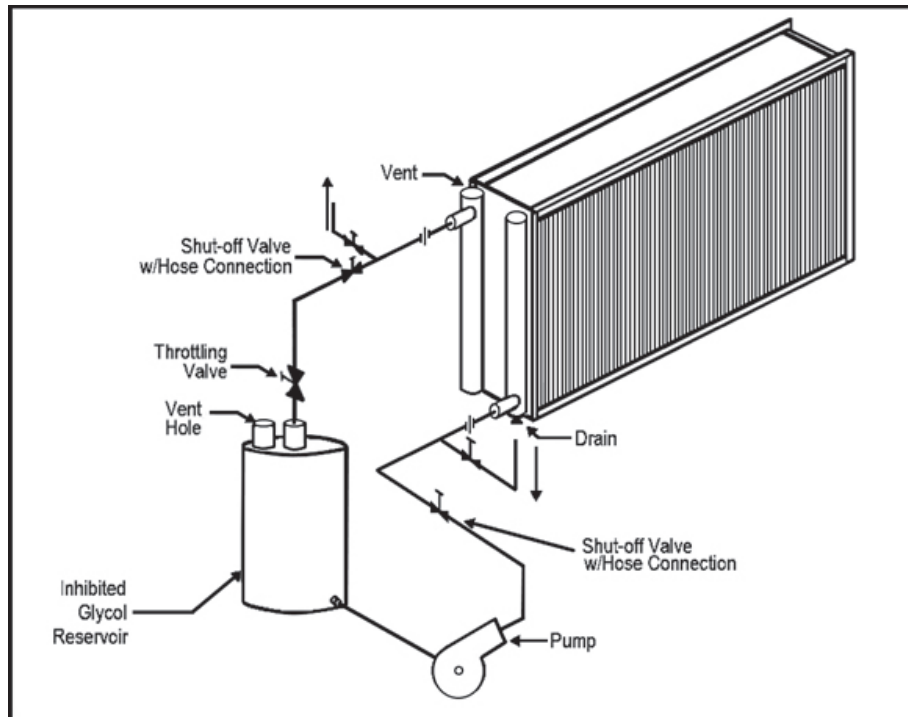

Figure 54 – Flushing System
- Connect the flushing system to the coil. A typical system is shown in Figure 54